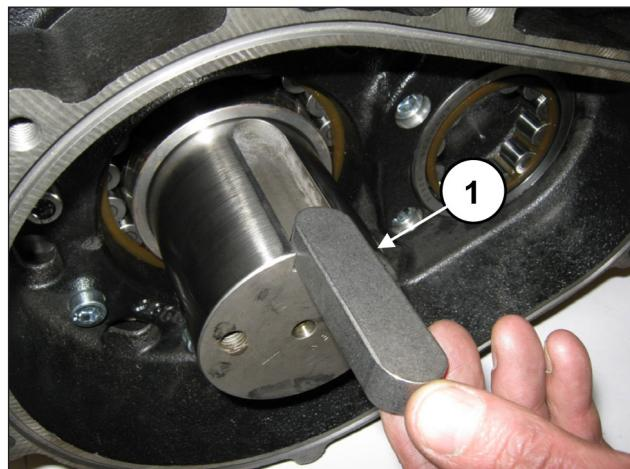
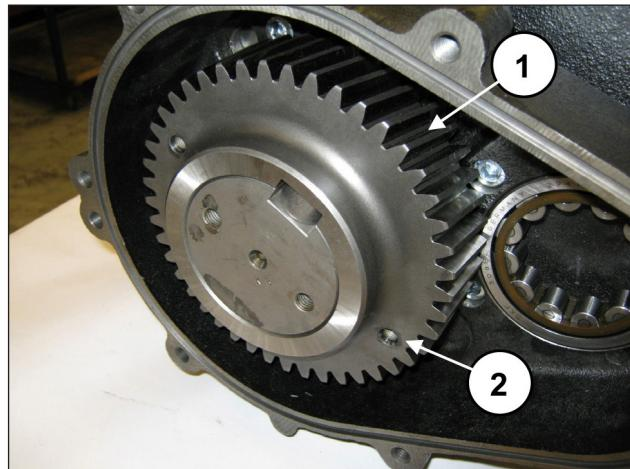

Fig. 76
Fig. 77
Apply the tab 22x14x80 in the shaft housing (pos. ①, Fig. 76) and insert the ring gear on the shaft (pos. ①, Fig. 77).
The ring gear must be assembled making sure that the two M8 holes (to be used for extraction) are facing the exterior of the pump (pos. ②, Fig. 77).